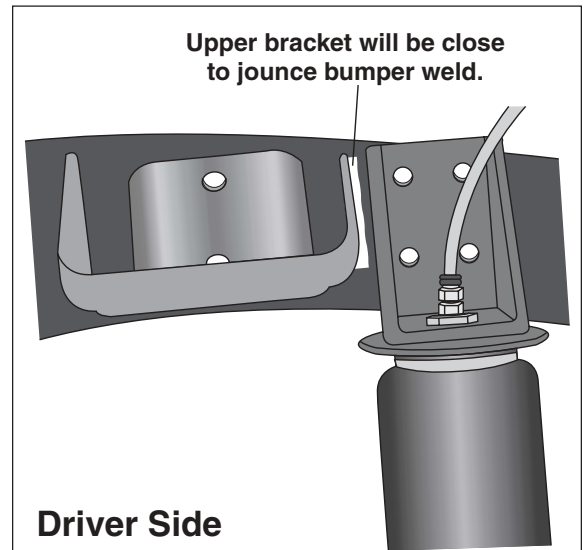

Figure 3
*NOTE: The upper bracket will be close to the jounce bumper bracket weld on the back side (Figure 3).*